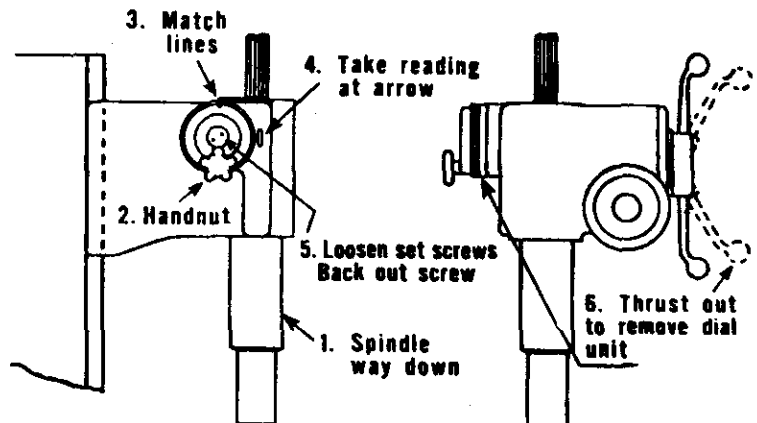

FIG. 8
(Eng. 20-605) (Fig. 8)
7. To replace the feed trip dial, run the spindle down to the end of its travel (1). See that the scribed lines on the rim of the dials (3) are in line and then place the dial back on the stud so that the arrow points at the SAME FIGURE as it did when the dial was removed (4) (Refer to Paragraph XI) (Fig. 8).
12. After the desired setting is obtained, lock the lock screw (5) (Fig. 8) against rotation by tightening the two small set screws in the head of the screw.